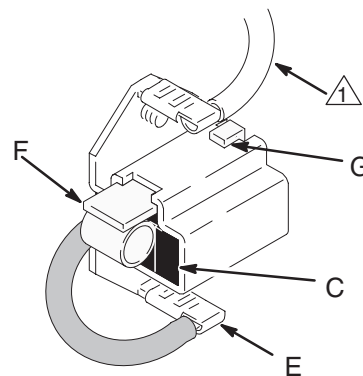

Fig. 7
7. Holding spring clip (F) at a slight angle, slide spring clip into brush holder and hook it over end of holder. See Fig. 7. Pull on spring clip to be sure it stays in place. Connect brush lead to blade connector (E).
- a. Remove pump connecting rod pin (14).